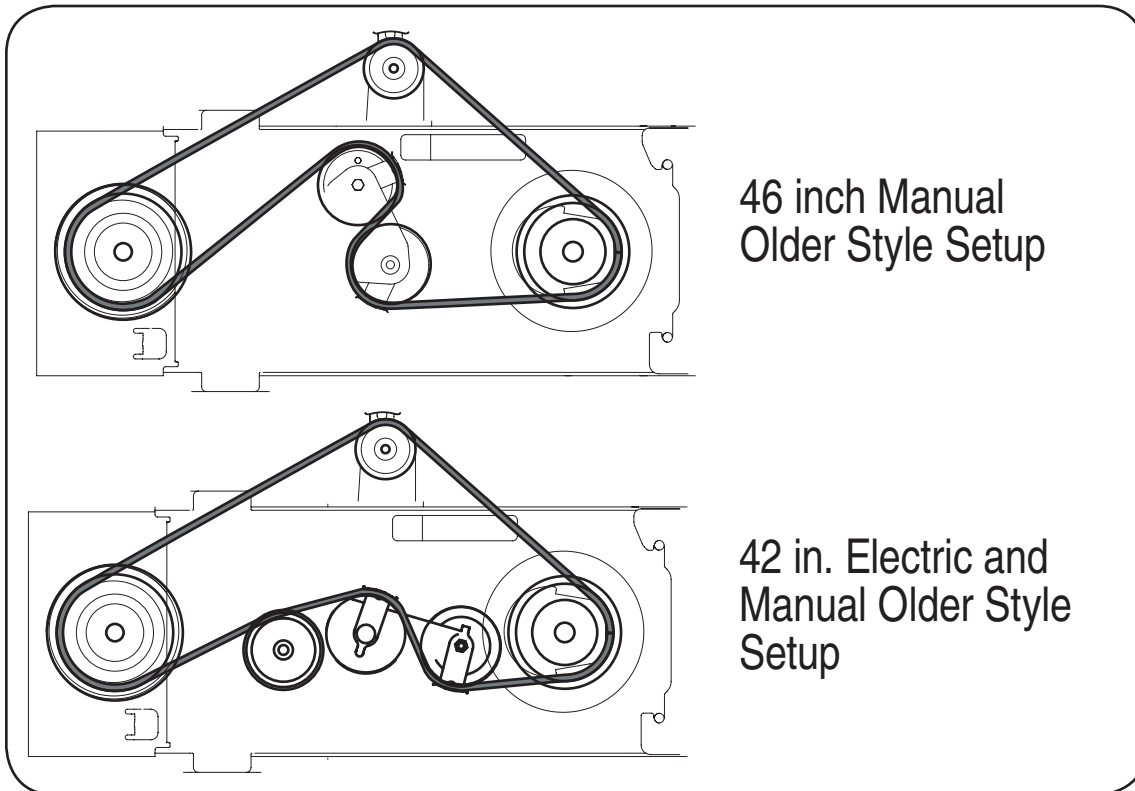

Figure 31
1. Attach and route the proper upper drive belt (refer to the table on page 12) around the spindle pulley and idler pulley found on the undercarriage, the lower portion of the engine pulley and the two pulleys found on the PTO double-idler bracket as illustrated in Figure 31. Make sure that the belt is routed to the **INSIDE** of all belt keepers on the idler pulleys and the keeper pins found around the spindle pulley